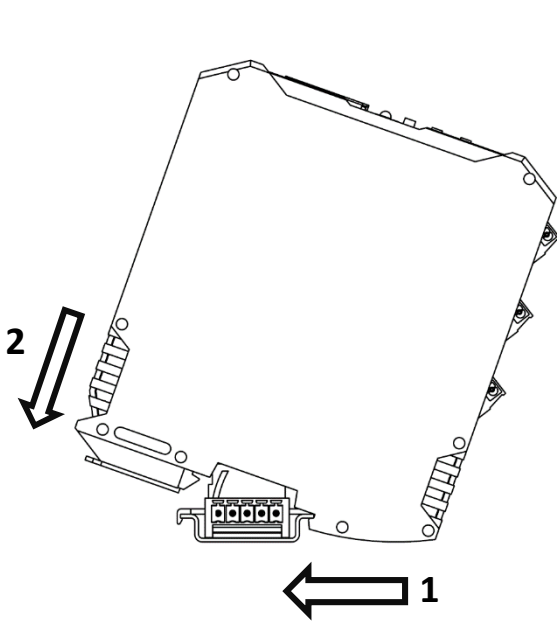

Figure 2: Mounting to DIN rail
The Control Module can be operated without bus adapter, they will be mounted on the DIN rail as shown in **Figure 2**. In this case each module must be powered separately with 24 VDC.
2. Incline the module and move it to the lower part of the DIN Rail. See **Figure 2**.